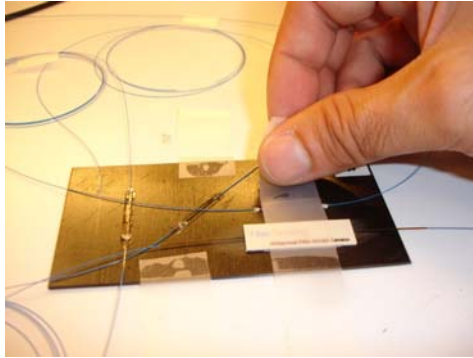

Fig. 2.3
- ▶ Fix the sensor using drafting tape (*Fig. 2.3*).